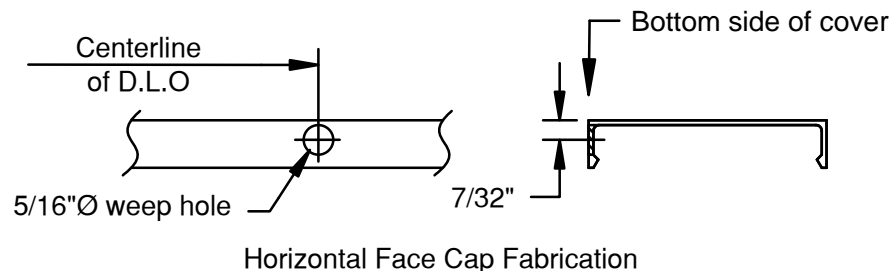

FIGURE 18
- 3.15 Seal horizontal pressure plates against the vertical face covers. Tool sealant into the joint. SEE FIGURE 18, page 12.